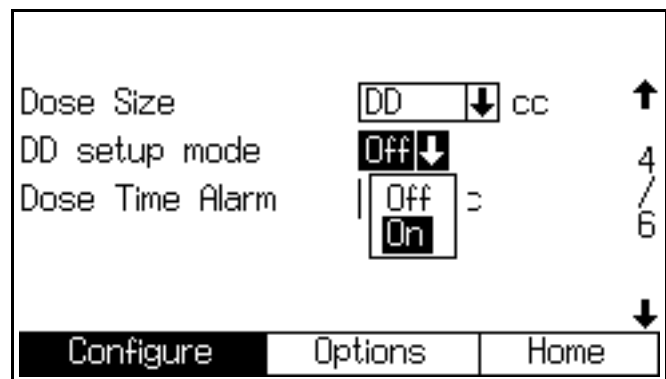

FIG. 95. Configure Screen 4, dynamic dosing setup mode enabled
3. Selecting "DD" in System Configure Screen 4 makes the DD Setup mode available. See FIG. 95. To enable DD setup mode, select On in the DD Setup mode drop down menu. This disables Off Ratio alarms E-3 and E-4, allowing uninterrupted setup and tuning.